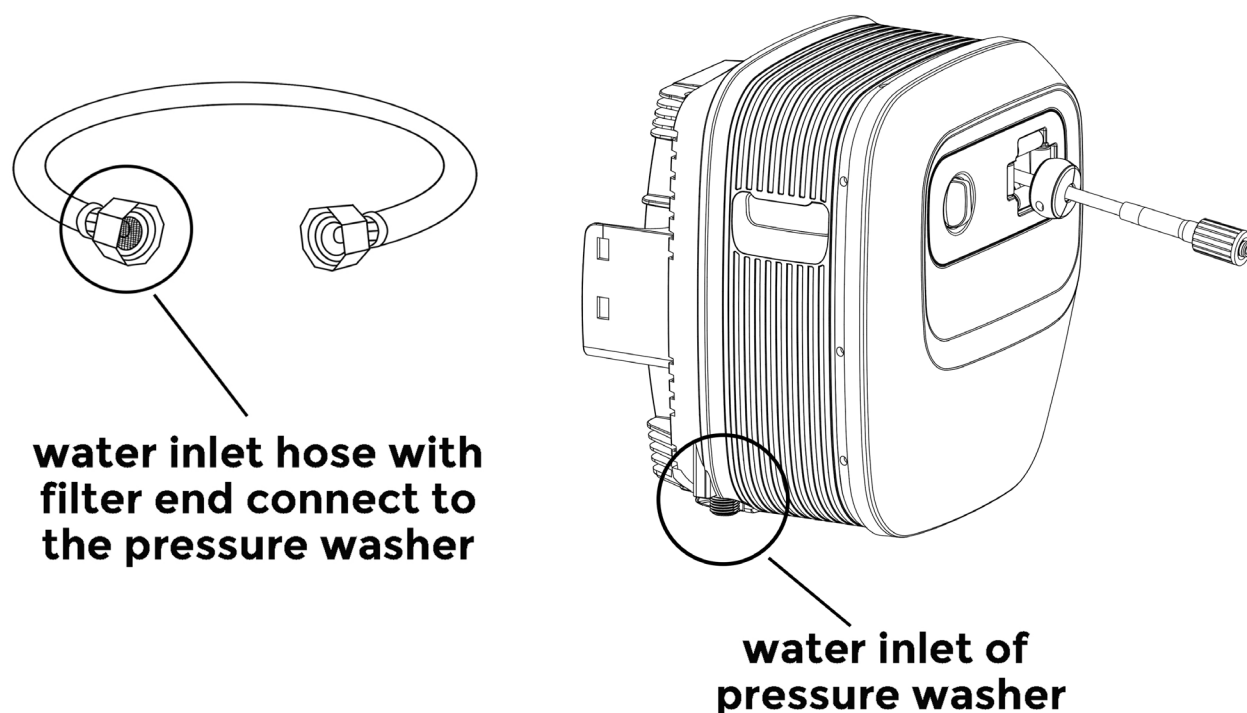

Figure 6: Water Inlet Hose Connect
5. Connect the water inlet hose (end with filter) to the water inlet end of the pressure washer by hand and tighten it by hand (Please make sure that there is no debris blockage on the filter side of the water inlet hose). See figure 6.